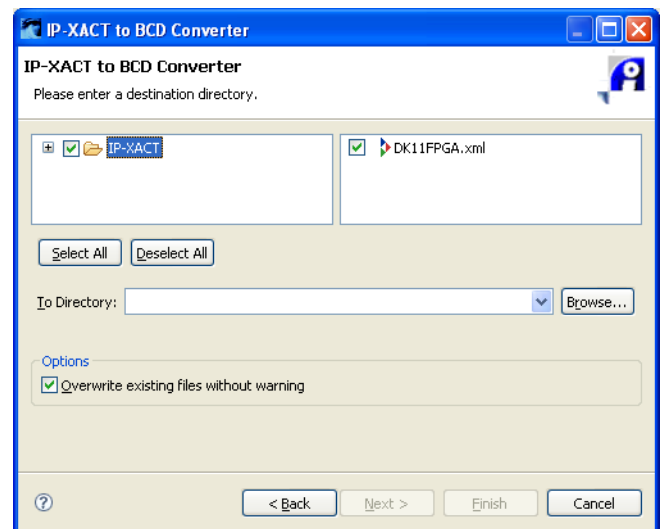

Figure 7-3 Select IP-XACT design file
3. Select the design file to be exported and enter the location of the destination BCD file or use **Browse...**, see Figure 7-3. Click on **Finish** to save the BCD file.